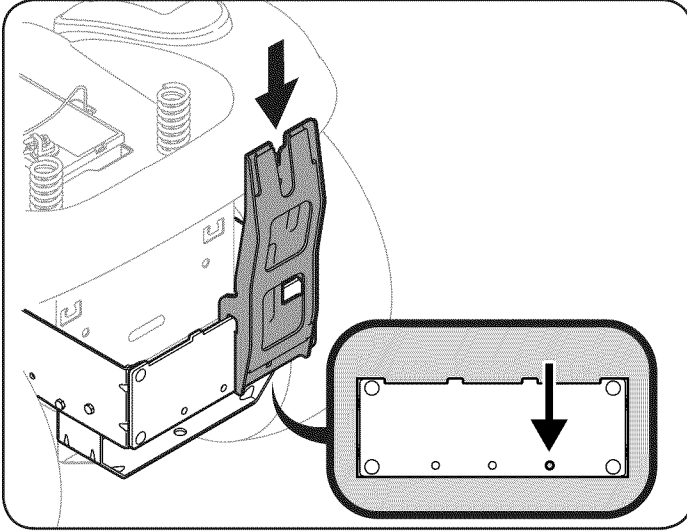

Figure 7
5. Install the upright support bracket onto the mounting assembly on the tractor by hooking it over the cross mounting bracket and aligning with the right-side mounting hole as shown in Figure 7.